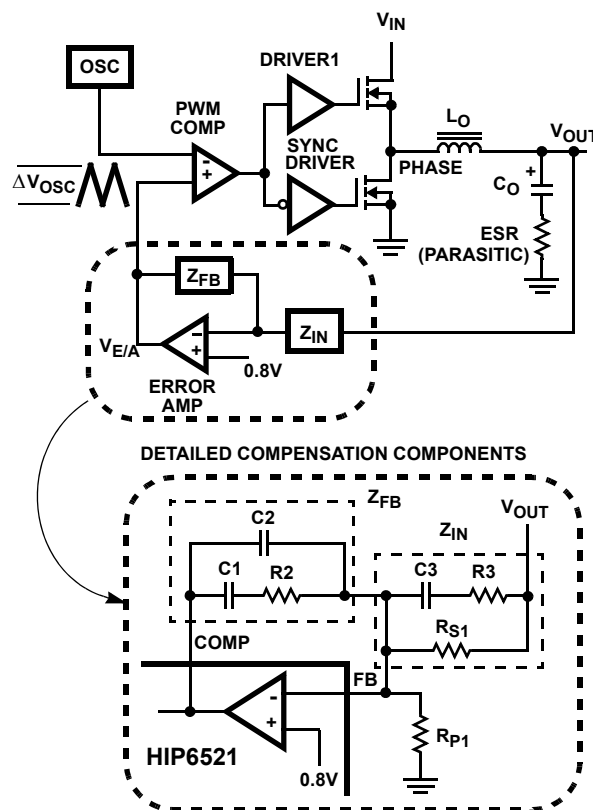
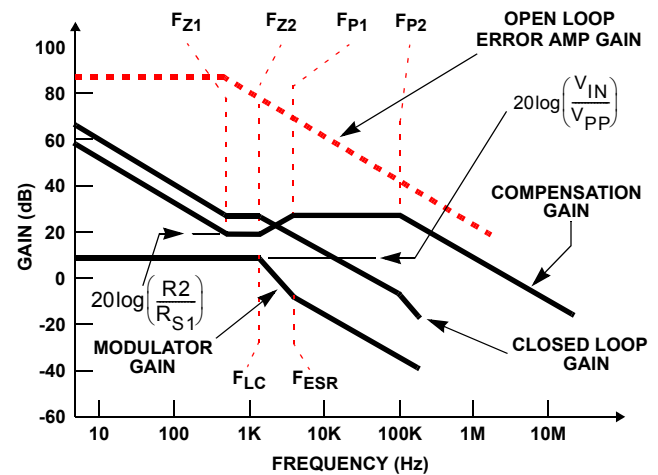

FIGURE 6. VOLTAGE-MODE BUCK CONVERTER COMPENSATION DESIGN
FIGURE 7. ASYMPTOTIC BODE PLOT OF CONVERTER GAIN
Figure 6 highlights the voltage-mode control loop for a synchronous-rectified buck converter. The output voltage ( $V_{OUT}$ ) is regulated to the Reference voltage level, 0.8V. The error amplifier (Error Amp) output ( $V_{E/A}$ ) is compared with the oscillator (OSC) triangular wave to provide a pulse-width modulated (PWM) wave with an amplitude of  $V_{IN}$  at the PHASE node. The PWM wave is smoothed by the output filter ( $L_O$  and  $C_O$ ).
The compensation network consists of the error amplifier (internal to the HIP6521) and the impedance networks  $Z_{IN}$  and  $Z_{FB}$ . The goal of the compensation network is to provide a closed loop transfer function with high 0dB crossing frequency ( $f_{0dB}$ ) and adequate phase margin. Phase margin is the difference between the closed loop phase at  $f_{0dB}$  and 180°. The equations below relate the compensation network's poles, zeros and gain to the components ( $R_1$ ,  $R_2$ ,  $R_3$ ,  $C_1$ ,  $C_2$ , and  $C_3$ ) in Figure 6. Use these guidelines for locating the poles and zeros of the compensation network:
Figure 7 shows an asymptotic plot of the DC/DC converter's gain vs. frequency. The actual Modulator Gain has a high gain peak dependent on the quality factor (Q) of the output filter, which is not shown in Figure 6. Using the above guidelines should yield a Compensation Gain similar to the curve plotted. The open loop error amplifier gain bounds the compensation gain. Check the compensation gain at  $F_{P2}$  with the capabilities of the error amplifier. The Closed Loop Gain is constructed on the log-log graph of Figure 10 by adding the Modulator Gain (in dB) to the Compensation Gain (in dB). This is equivalent to multiplying the modulator transfer function to the compensation transfer function and plotting the gain.